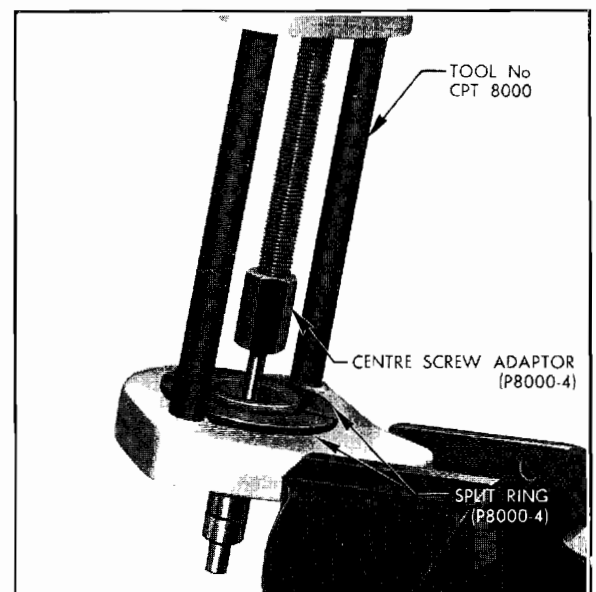

Fig. 3
4. Press the impeller off the end of the shaft, using adaptors details a and b as shown in Fig. 3, ensuring that the vanes avoid the slots.